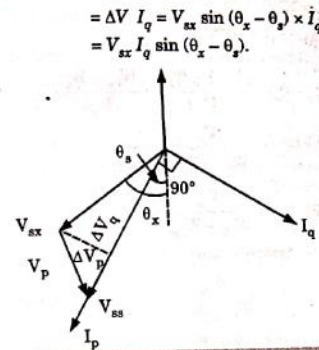

Fig. 3.22.2. Phasor diagram for circuit.
7. The phase of the current I is so adjusted that the wattmeter W_1 reads zero. Under these conditions current I is in quadrature with voltage V_{ss} . The position of current phasor for this case is shown in Fig. 3.22.2 as I_q .